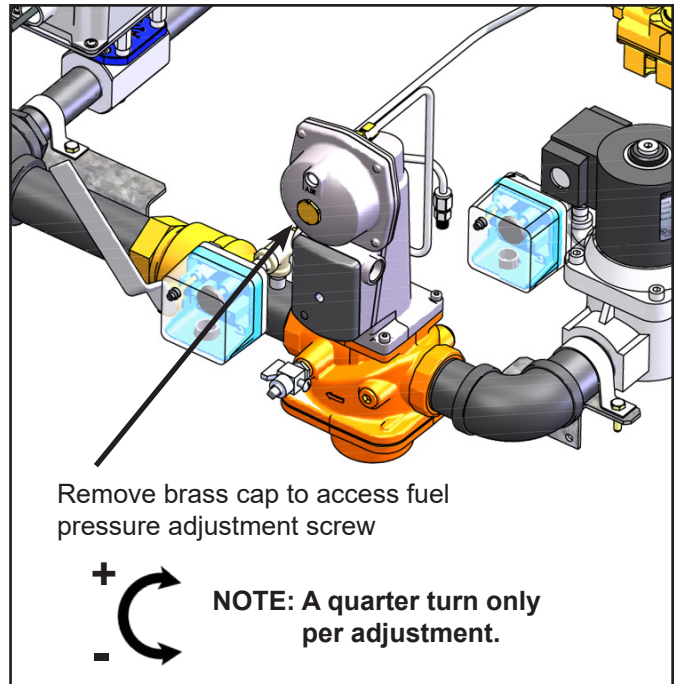

Figure 51. Fuel Pressure Adjustment Screw
2. Locate the pressure adjustment on the Pressure Regulating Gas Valve by removing the brass cap at the top front of the unit. See Figure 51
8. If needed, adjust the fuel pressure adjustment screw (See Figure 51) to obtain a **Hi-Fire CO2 measurement of 9.0% +/- 0.2%**.